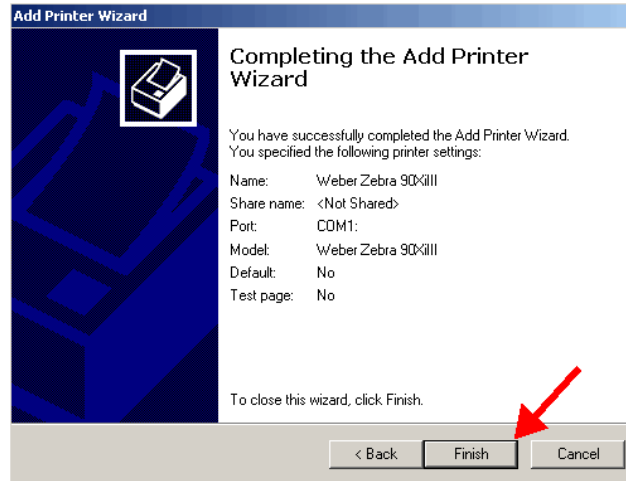

Figure 3-14
3.2.16. Click [**Finish**] to complete the *Add Printer Wizard*. (Figure 3-14)